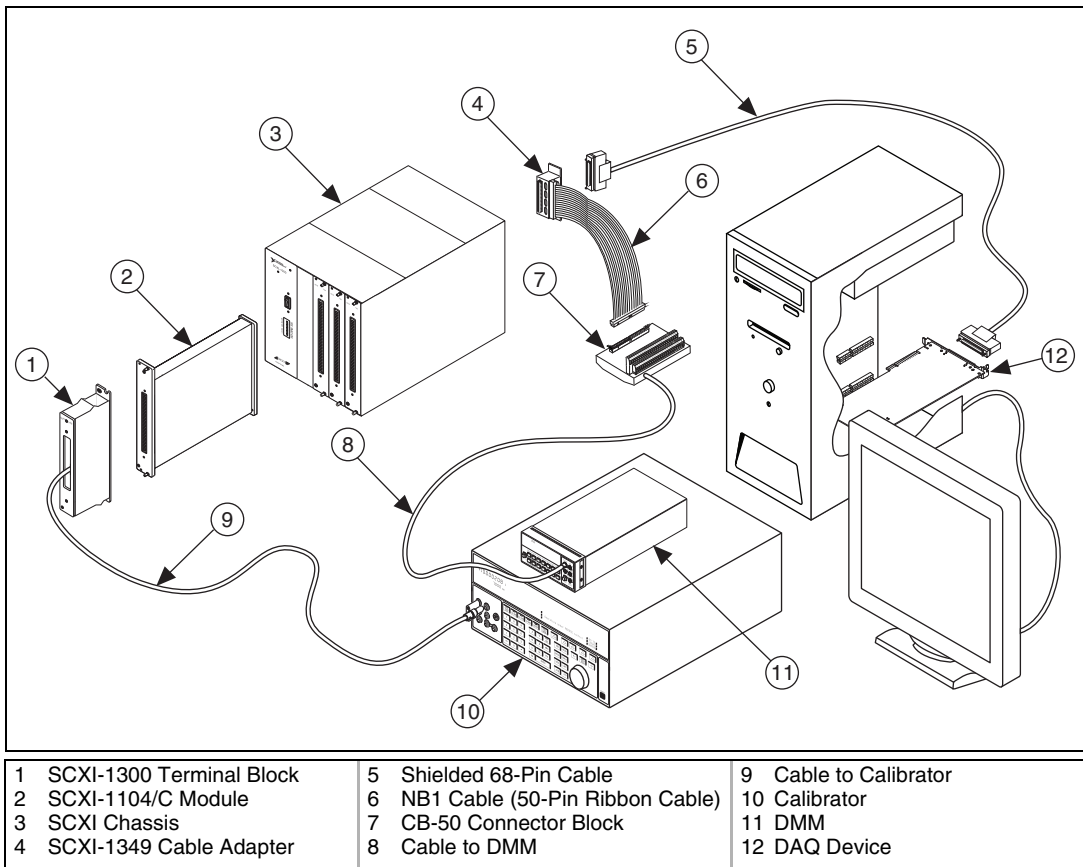

Figure 1. Calibration Components and Connections
Note A complete SCXI-1104/C calibration system is illustrated in Figure 1 with a listing of all the components required for calibrating the SCXI-1104/C.
3. Assemble the SCXI-1104/C, SCXI chassis, terminal blocks, and DAQ device as shown in Figure 1. You must cable the SCXI-1104/C directly to the DAQ device. Install the SCXI-1104/C module in slot 1 of the SCXI chassis.